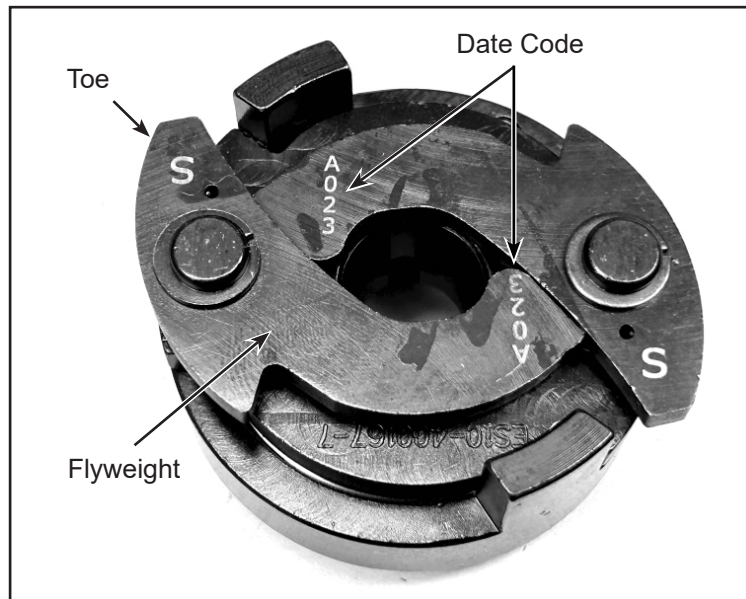
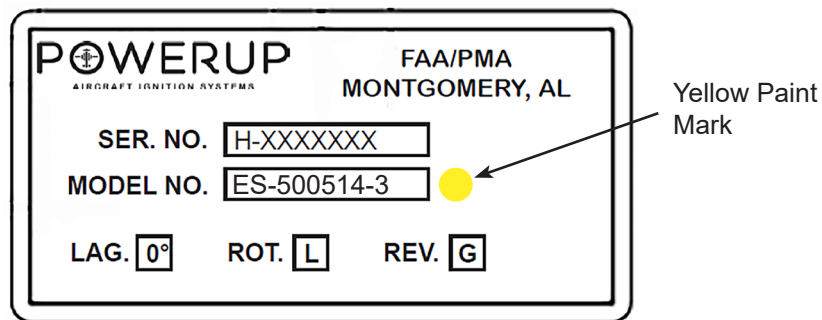

Figure 2 - Impulse Cam Assembly Date Code
Figure 3 - Compliance Mark
- (1) For affected field spare magneto assemblies, impulse coupling assemblies, and impulse cam assemblies, inspect per 3.C.(1)(c). Return all rejected assemblies to HET through the Commercial Appendix found herein.
- (2) New field spare impulse coupling assemblies and impulse cam assemblies not affected by this ASB are shipped with an assembly date laser-etched onto the flyweights. See Fig. 2 for assembly date location and example.
(1) Magneto Inspection
- (c) Inspect the impulse cam assembly date code. See Fig. 2.
- 1) If the cam assembly has less than 250 hours TIS and either flyweight date code **is** one of the following, the unit is affected. Refer to 3.C.(2) Impulse Coupling or Impulse Cam Replacement.
- a) If deformation is noted, Refer to 3.C.(2) Impulse Coupling or Impulse Cam Replacement.
- b) If deformation is not noted, cam assembly may continue in service in accordance with the latest applicable maintenance manual requirements. Identify magneto and cam assembly per per Figures 3 and 4. Reassemble and install the impulse coupling in accordance with the latest applicable maintenance manuals. Continue to 3.D. Return to Service.
- (2) Impulse Coupling or Impulse Cam Replacement
- (b) Mark the magneto assembly data-plate with a yellow paint mark (Fig. 3) .25 in. diameter as a visual indicator of compliance with this ASB.